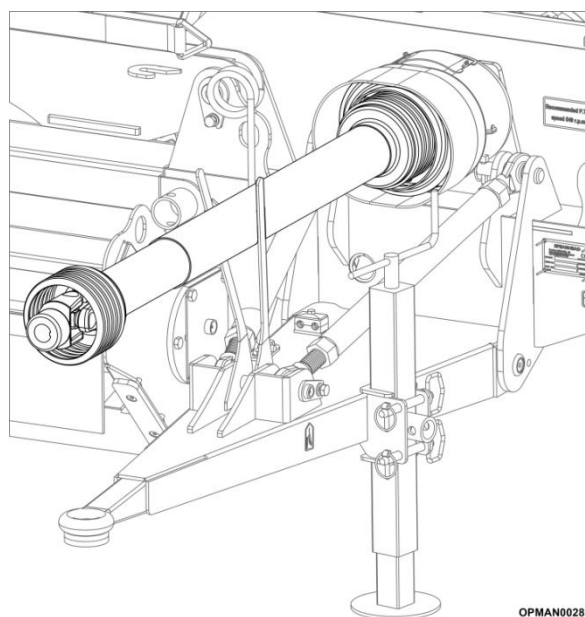

Figure 4.11 – Fit To Trident
- 4.5.1.3 Pull the input shaft yoke collar back and align the grooves and splines with those of the PTO output shaft of the tractor; see Figure 4.11 (B).
- 4.5.1.6 Pull the input shaft yoke collar back and pull back the shaft off the output splined shaft of the tractor; see Figure 4.11 (B).
- 4.5.1.8 To then completely remove the shaft, remove the taper pin, flat washer and nut from the machine end; see Figure 4.11 (A).